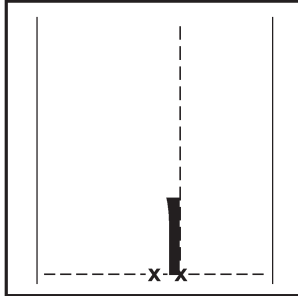

Figure 60
- Lay out the curve arrow base (liner still on) with the RIGHT edge against the chalk line and the base along the base line (see Figure 60).